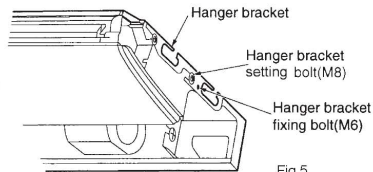

Fig.5
- Loosen two hanger bracket setting bolts (M8) on each side for less than 10mm. Remove two hanger bracket fixing bolts (M6) on the rear side. Detach the hanger bracket by pulling it backward (Refer to Fig.5).
F. Screw tightly both hanger bracket-setting bolts (M8). (Refer to Fig.5)
to Fig.5)